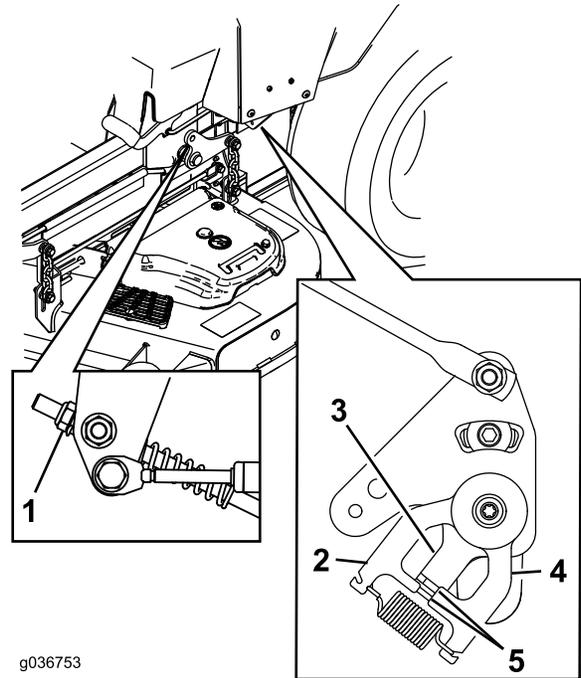

Figure 81
11. Adjust the pump-control-rod lengths by rotating the nut in the appropriate direction until the wheels slightly creep in reverse (Figure 81).